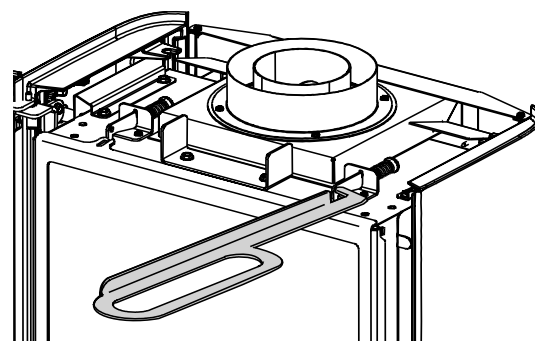

Figure 2.2. Use Latch Tool to disengage glass frame.
- Engage the Latch Tool with the holes in the sprung glass frame latches, located on top of the firebox. See fig. 2.2. Pull the latch hooks out to disengage them from the glass frame.
- Grasp the Front Plate at the center top and bottom and lift it straight up and out to disengage it from the stove side brackets. You can then set the top plate back down and use the Latch tool to disengage the Glass Frame as show in fig. 2.2.